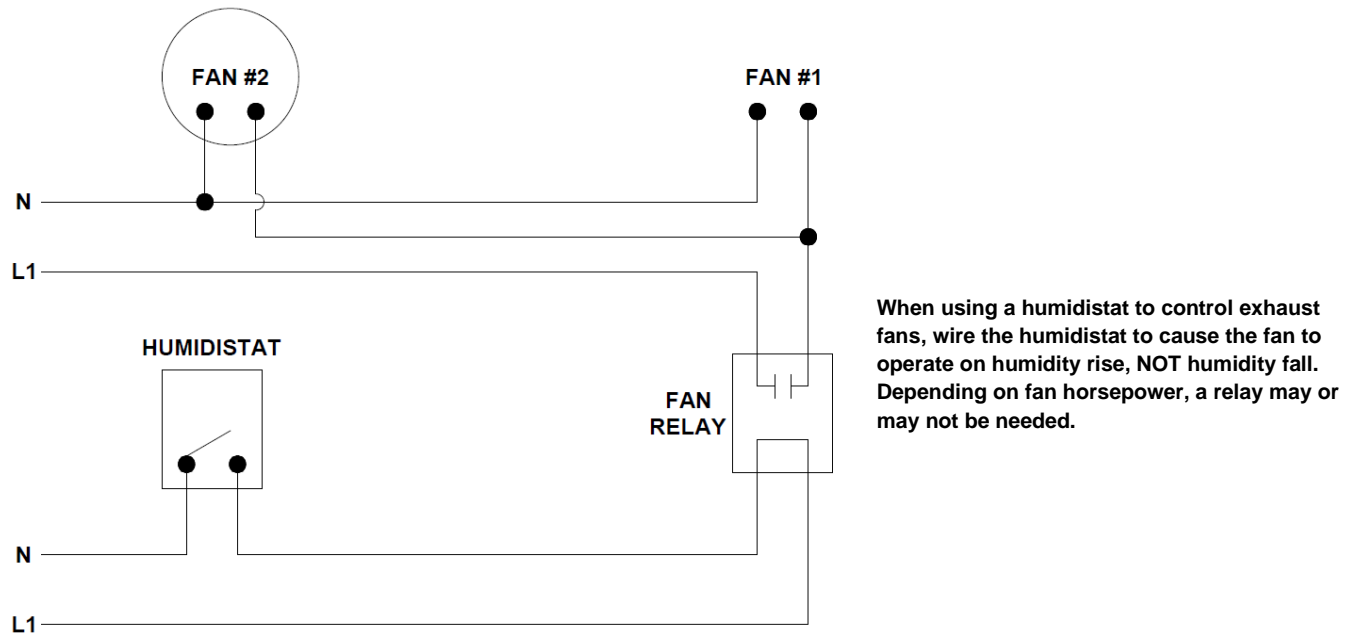

Figure 6: Block Diagram
- If mechanical exhaust is used in the building, it is typical to interconnect these in the heater circuit as shown in Figure 6.